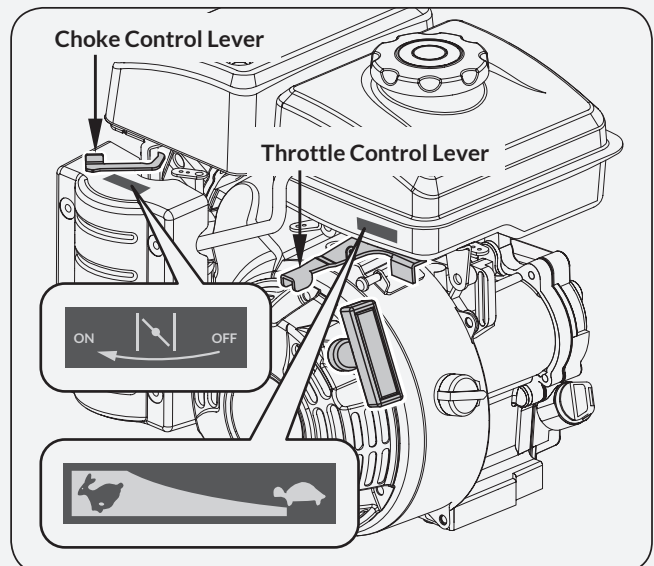

Figure 9
2. Move the choke lever to the CLOSED position. (see **Figure 9**)
3. Move the throttle control lever slightly forward to about ¼ of the way (Slightly toward the fast position). (see **Figure 9**)